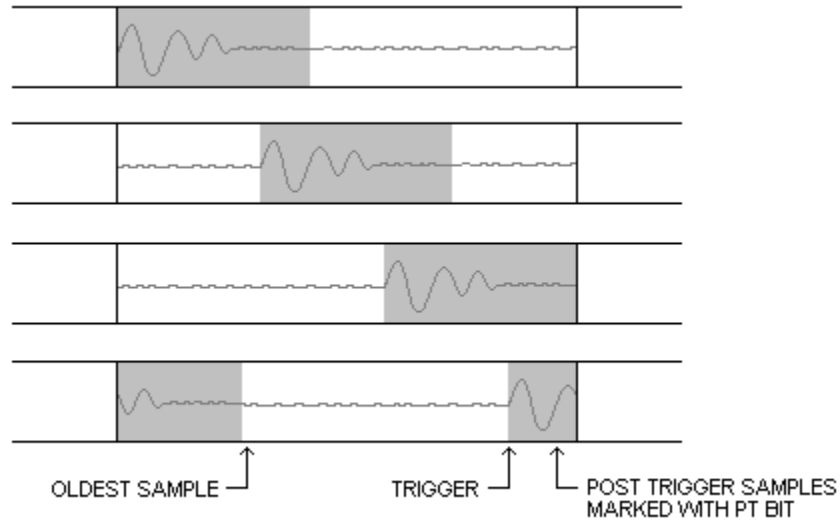

Figure 3.3 *Post-trigger Store Mode Circular Buffering*
In order to make it easier to determine which samples are recorded before and after the trigger in the circular buffer, the post-trigger status bit (PT) is included with each sample in the segment. Sample data will generally be read from the first sample in the memory segment. Because the segment forms a circular buffer, this data may not be the oldest data. Figure 3.3 shows some possible synarios.